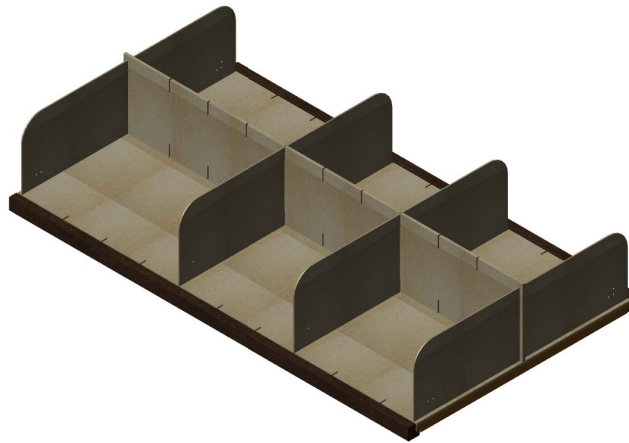

FIGURE 5 – RESINDEK® SHELVING SYSTEM
3.2.1 General: ResinDek® Shelving System, as shown in Figure 5, can be used to store and support case goods in a rack or shelving structure inside a warehouse, distribution, or manufacturing center.